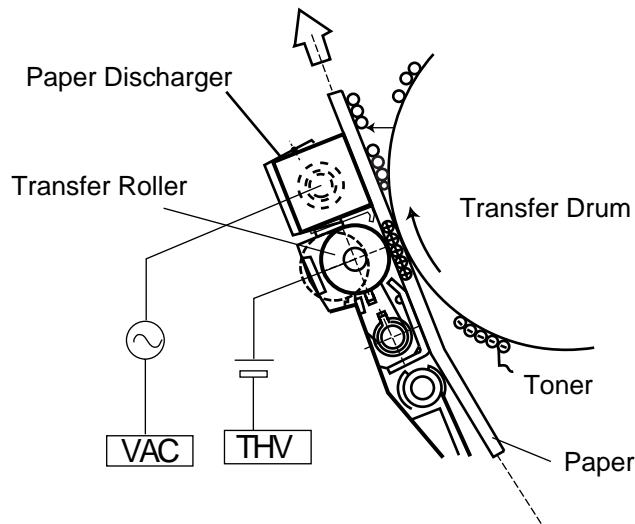

Fig.4-22
- (1) Structure of Paper Discharger (Refer to Fig.4-22.)
- (2) Process of Paper Discharging (Refer to Fig.4-22.)